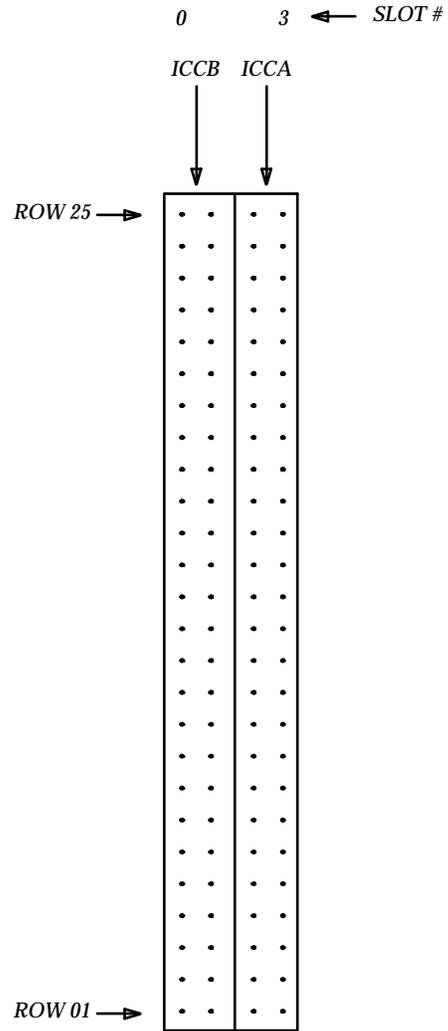

FIGURE 2-23. ICC Block on J58890AH-1 and J58890AJ-1 Carriers
17. See CAUTION. Install the Inter-Carrier Cables (ICC) cables (H600-182 Gr1) between carriers “A” and “B” by connecting to the ICC blocks on both carriers. (See Table 2-E and Figure 2-23.) The cable is installed so that the dark (red, blue, or purple depending on supplier) stripe is on the bottom at both ends.